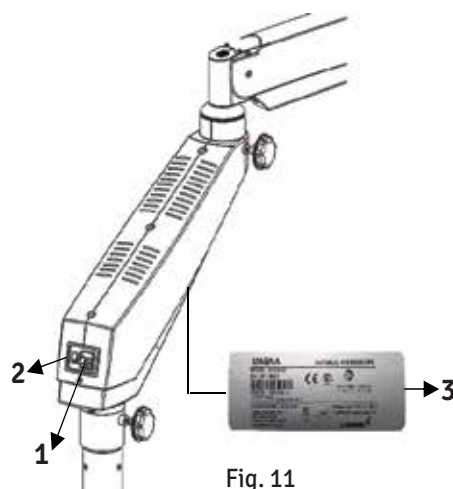

Fig. 11
Connect the power cable to the AC inlet socket (1) located at the back of the swivel arm as shown in Fig. 11.